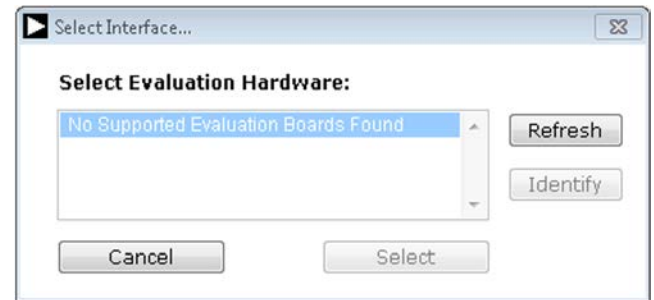

Figure 16. Connectivity Error Alert
2. If the **AD7768-1** evaluation system is not connected to the USB port via the **EVAL-SDP-CH1Z** when the software is launched, a connectivity error displays (see Figure 16). Connect the evaluation board to the USB port of the PC, wait a few seconds, click **Refresh**, and then follow the on screen instructions.